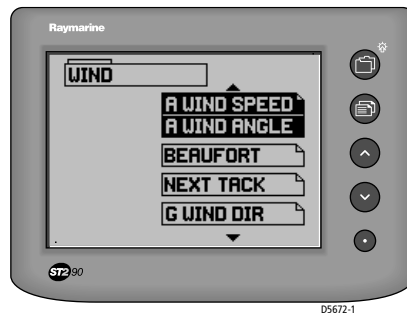

Figure 2-3: Page select menu
3. Press  to display the Page menu for the selected chapter (see *Figure 2-3*).